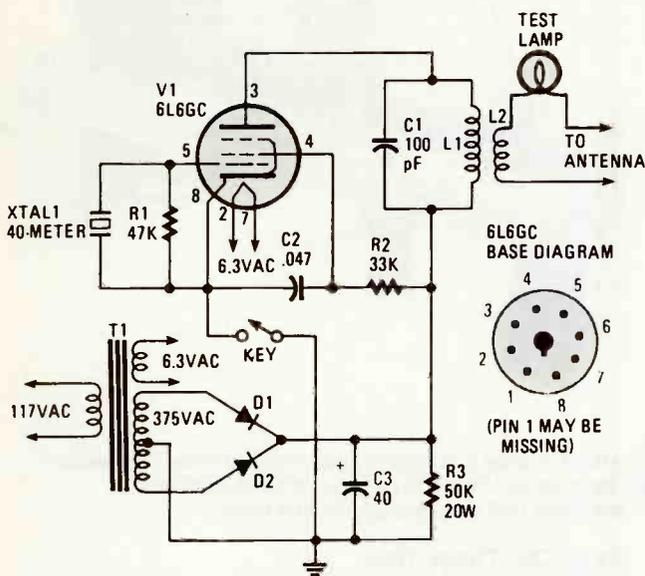

Fig. 1—The schematic diagram for the transmitter is very simple, scarcely having enough parts to rate a Parts List.
oscillator that operates at around 100 MHz. Refer to Fig. 1. The most important parts of the oscillator are transistor Q1 and the tuned circuit, which embraces the inductor L1 and the variable capacitor C5.
**Fig. 1—The Dirty Little FM Snooper circuit is a one-stage, FM transmitter. The condenser microphone, MIC1, couples audio to transistor Q1 whose internal junction capacitance provides a variable capacitance to the LC-tuned circuit, thereby frequency modulating the output carrier.**
The other component, transistor Q1, must be oriented correctly before it is soldered to the printed-circuit board. Refer to the transistor terminal-identification drawing in Fig. 1. Seat the transistor in the board and solder in place.
You may decide to add a SPST, on/off switch (S1 in Fig. 1) in series with one leg of the battery's leads. That can be done any time after the project is completed.
Solder two uninsulated, solid, copper wires to the microphone terminals on the printed-circuit board and clip the length to one inch. Slip the board into the box as shown in the photo. With the microphone in place, the two added wires will be along side the terminals of the microphone. The wire that connects to ground (negative terminal of B1) connects to the metal tab and negative terminal of MIC1. The other wire connects to the positive terminal of MIC1. Refer to Figs. 1 and 3 for additional details.